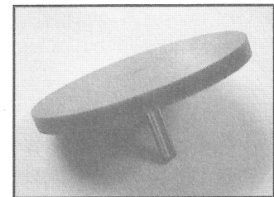

Figure 7. Alignment tool
- Install the router alignment tool (Figure 7) into the router 1/4" collet. Place the router face down on the carriage plate with the alignment tool inserted into the hole of the carriage plate.